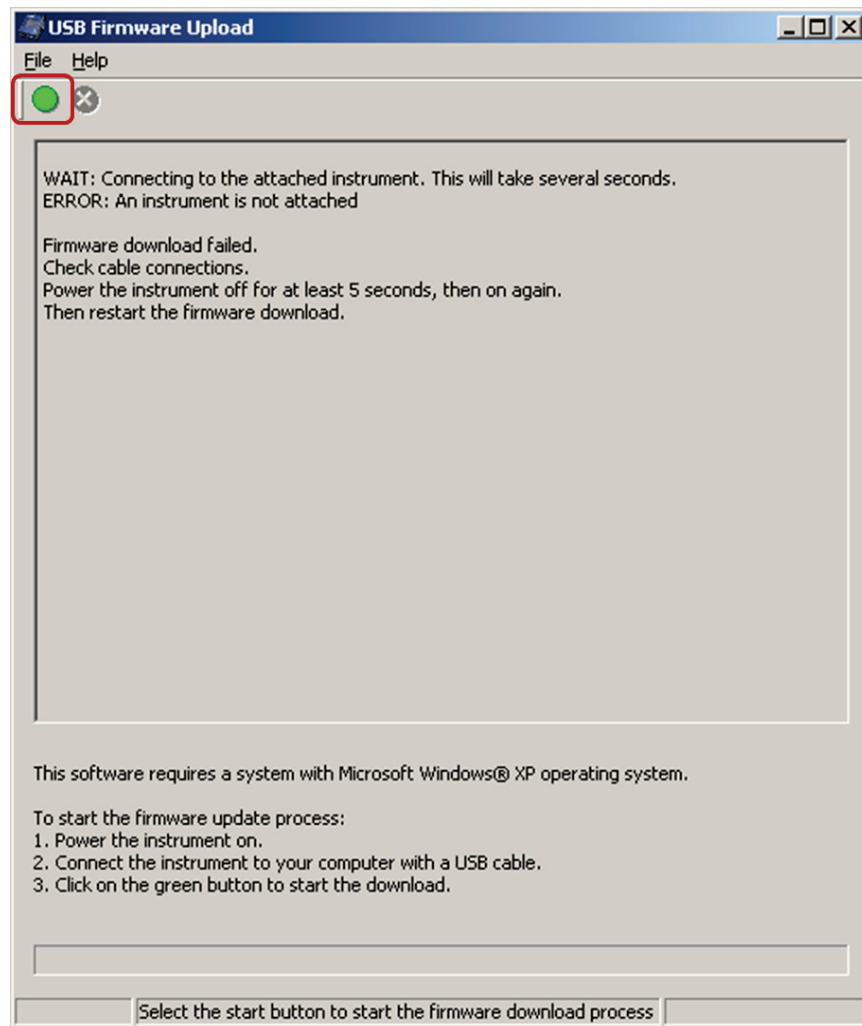

Figure 11
In the event that the instrument is not attached or not powered, the following error will be shown in the status box of the application (Figure 11):
8. If the Firmware Upload application is displaying an error message similar to Figure 11, restart the Firmware Upload process by clicking the green **START** button.